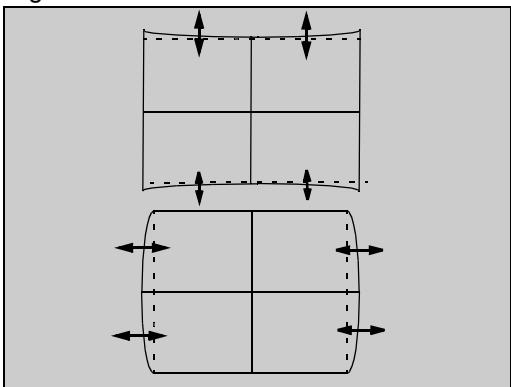

Figure 40. H & V PIN Adjustment
- Adjust V_PIN by pressing CH up-down (See Figure 40).
30. Adjust horizontally and vertically (See Figure 40)